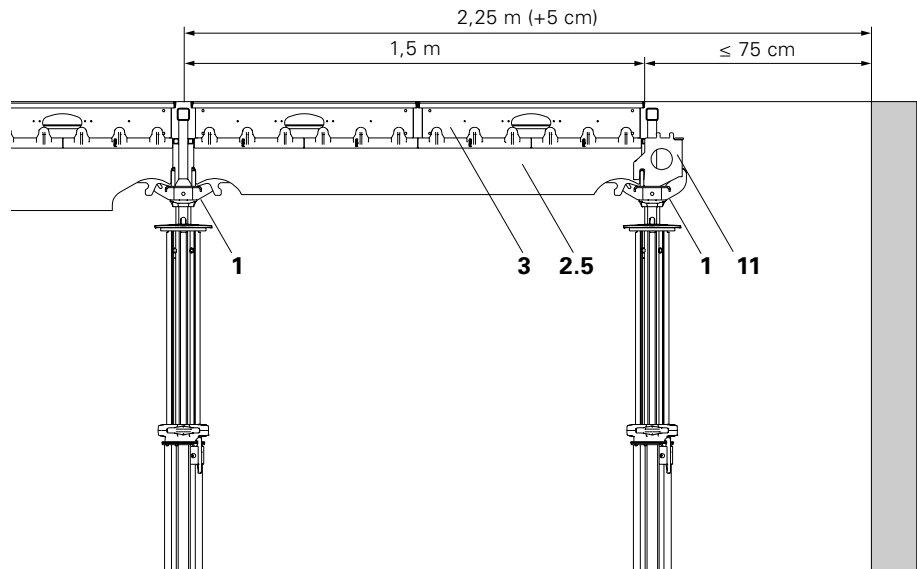

Fig. A5.21
1. Continue forming with prop, Compensation Beam SLT 150 (2.5) and Panel SDP (3) as in the standard bay. (Fig. A5.21)